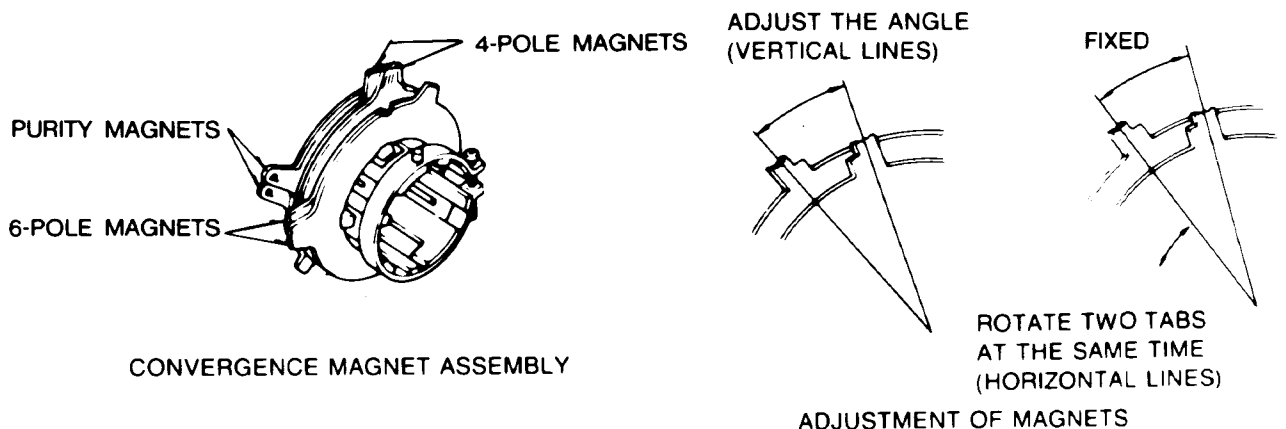

Figure 8
6. Rotate and spread the tabs of the purity magnet (See figure 8) around the neck of the picture tube until the green belt is in the center of the screen. At the same time, center the raster vertically.
3. Adjust two tabs of the 4-pole magnets to change the angle between them (See figure 8) and superimpose the red and blue vertical lines in the center area of the picture screen. (See figure 9.)